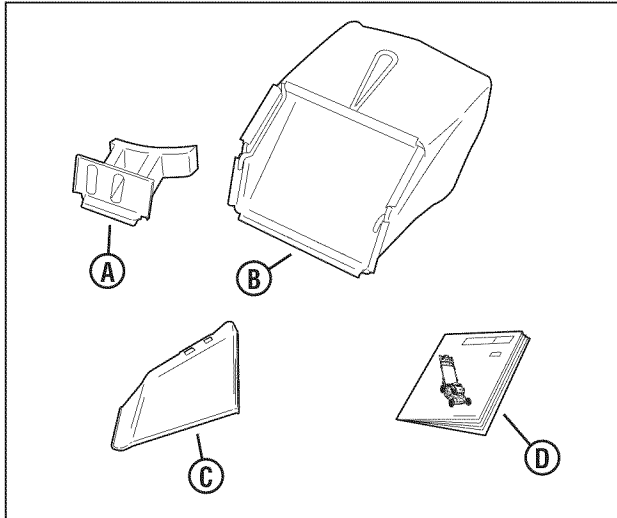

Figure 1: Items included
- Mulching plug (A, Figure 1 - installed)
- Grass bag (B)
- Side discharge deflector (C)
- Operator's manual (D)